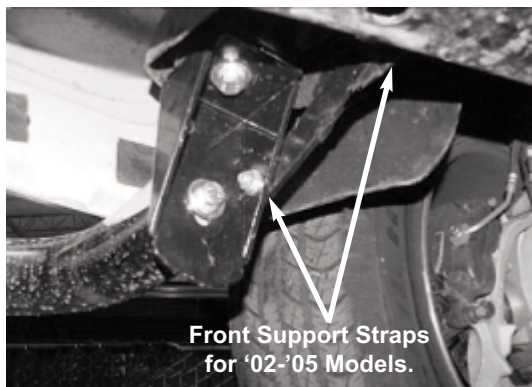
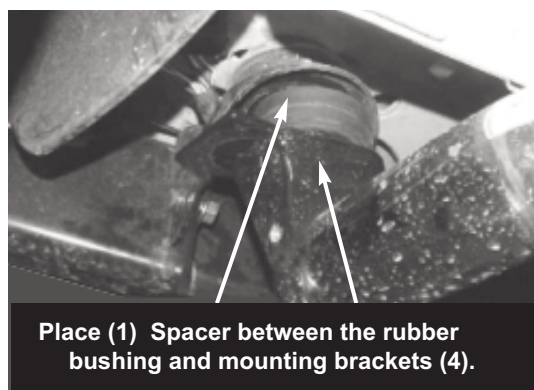

Figure 1 - Front Bracket (Driver Side)
Figure 4 - Spacer
2. Remove existing body mount bolts, do not discard rubber bushing. Install the front bracket to the front body mount (**See Figure 1, 5**) by replacing the factory bolts with (1) M12 – 1.75 x 120mm bolt, 1/2" lock washer, and 1/2" flat washer. Place the 1/2" x 1.88 x 3/16" spacer between the bracket and the rubber bushing and hand tighten. (**See Figure 4**) Repeat Step #2 on opposite side.
Attach the front support strap to side of the front bracket using (1) M10 bolt, (2) M10 flat washer, (1) M10 lock washer and (1) M10 hex nut. Attach the other end of the support strap to the frame rail housing using (1) M12 bolt, (2) M12 flat washer, (1) M12 lock washer and (1) M12 hex nut. (**See Figure 1**) Note: Some models may require drilling a 12MM dia. hole on the frame rail housing (body mount housing) if not equipped.